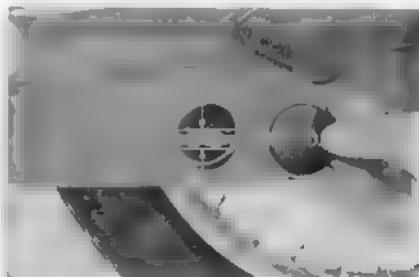

Fig. 3.9 Adjusting the chain
11. Adjust the chain with the chain adjuster nuts on both sides of the rear wheel so that there is a slack of 1~2 cm (0.4~0.8 in) when checked with fingers on the bottom loop of midpoint between the sprockets. (Fig. 3.9)